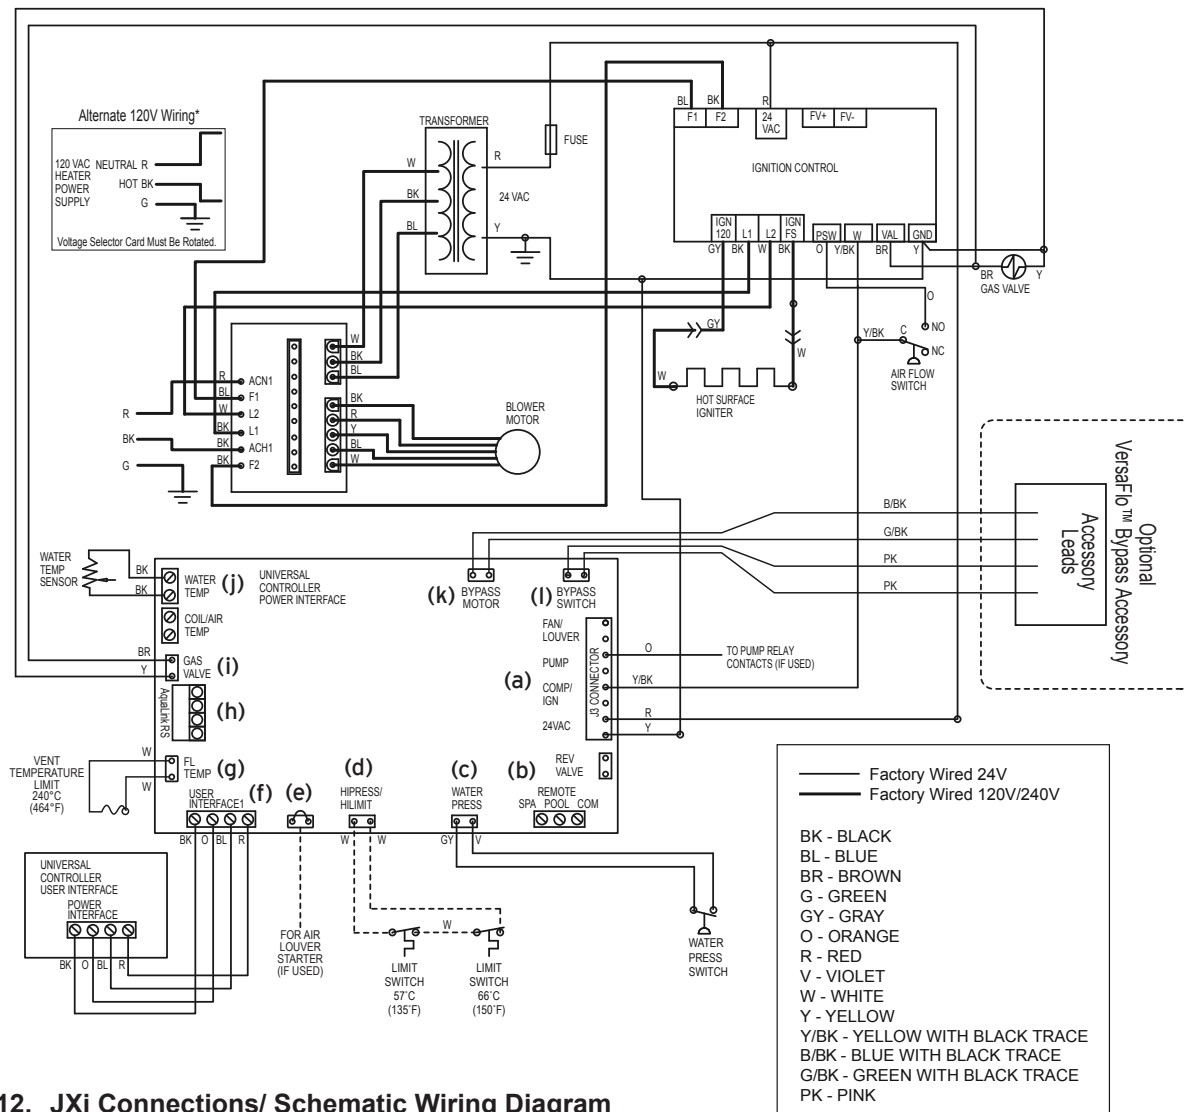

Figure 12. JXi Connections/ Schematic Wiring Diagram
NOTE: If the heater is converted to accept 120V, the "Hot" wire of the 120V power supply has to be connected to the black wire (ACH1) on the power distribution board and the "Neutral" wire of the 120V power supply has to be connected to the red wire (ACN1) of the power distribution board. Please see *Figure 12* for details.
Refer to *Figure 12* for a complete diagram of wiring connections and terminals.
- Connect the wiring from the pool/spa control system to the heater remote control terminal. See *Figure 12* item “b”.
- Connect the two wires to Pool and Common (not Spa) on the J6 terminal bar. See *Figure 12* item “b”.